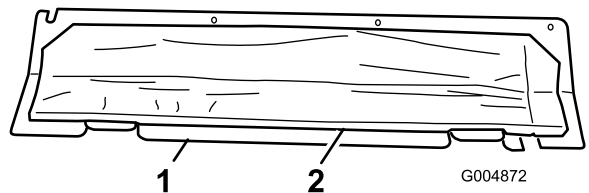

Figure 8
13. Clean the engine side of the front cover and install the self-adhesive heat shield material (Figure 8). The heat shield must be positioned so that the cover can be reinstalled without clamping the heat shield material between the access cover and the frame. Do not install the panel at this time.